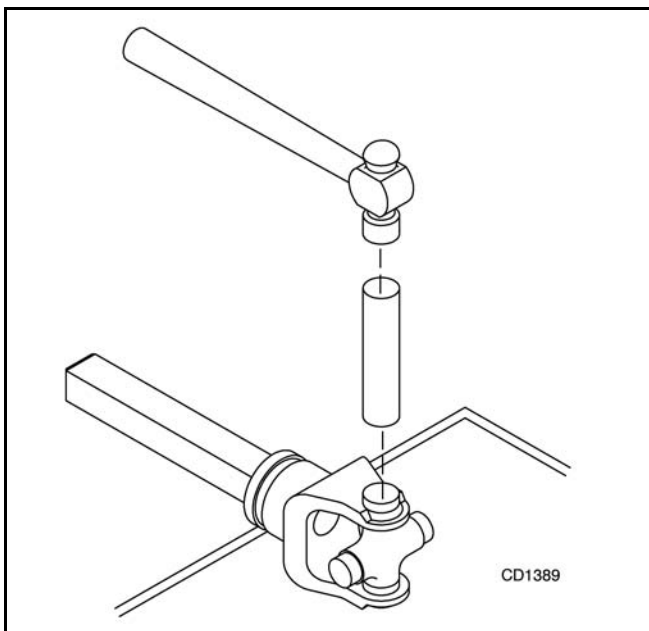

Figure 22.
2. Seat cups by placing a drift or socket (slightly smaller than the cup) on cup and rapping with a hammer. See Figure 22. Install snap ring and repeat on opposite cup.